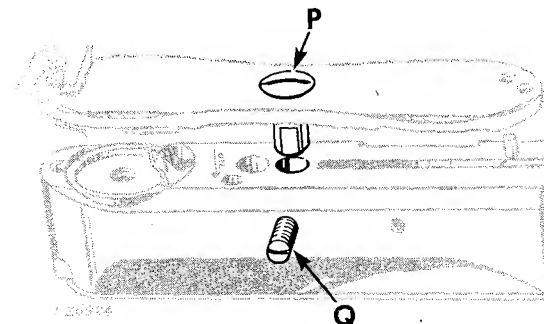

Fig. 33. Correct Position of Hinge Pin in Needle Plate
2. Loosen screw **Q**, Fig. 33 and, by lifting upward, remove needle plate and hinge pin **P**.